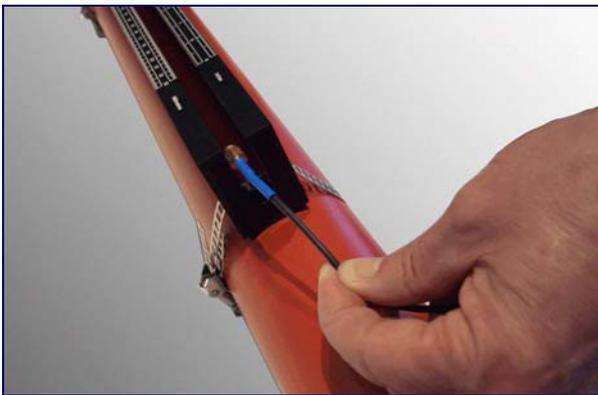

Figure 2.8
3. Insert the downstream transducer cable (blue) through the right-hand guide rail end plate and up through the rectangular opening at the left-hand side of the guide rail, as shown in Figure 2.8.